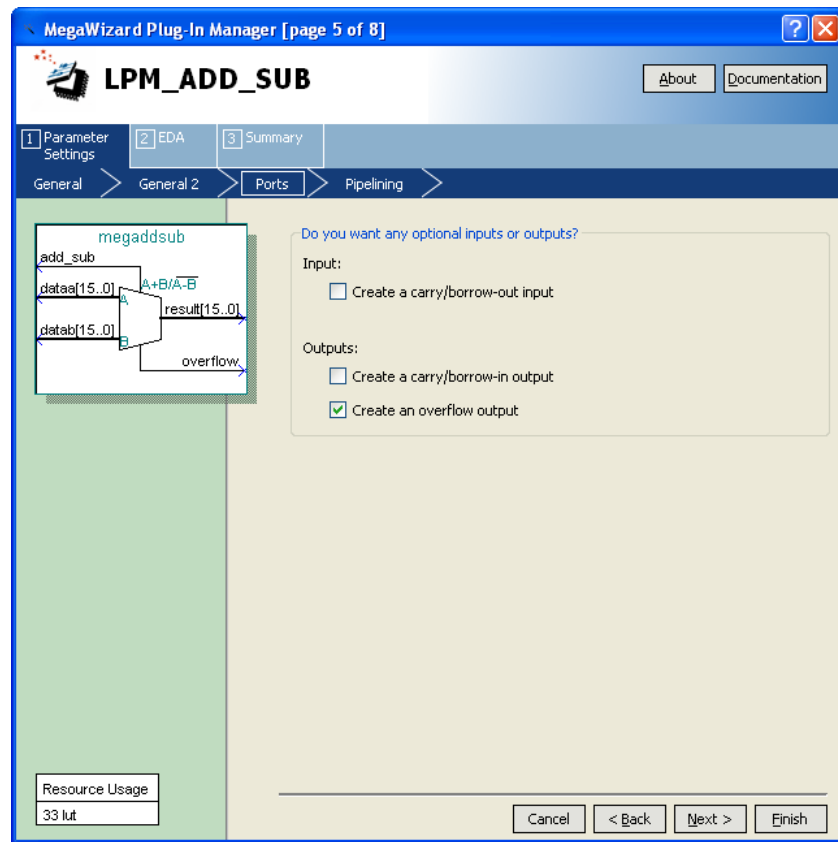

Figure 8. Specify the Overflow output.
6. The box in Figure 8 allows the designer to indicate optional inputs and outputs that may be specified. Since we need the overflow signal, make the **Create an overflow output** choice and press **Next**.